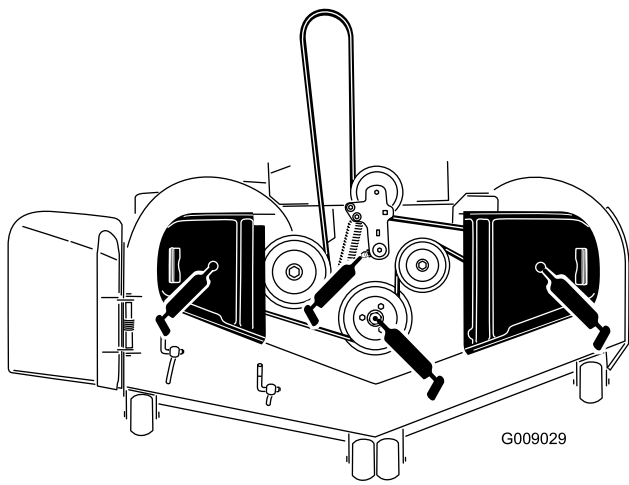

Figure 45
3. Grease the mower deck idler pulley pivot until grease come out the bottom (Figure 45).
4. Grease the three spindle bearings until grease comes out the lower seals (Figure 45).